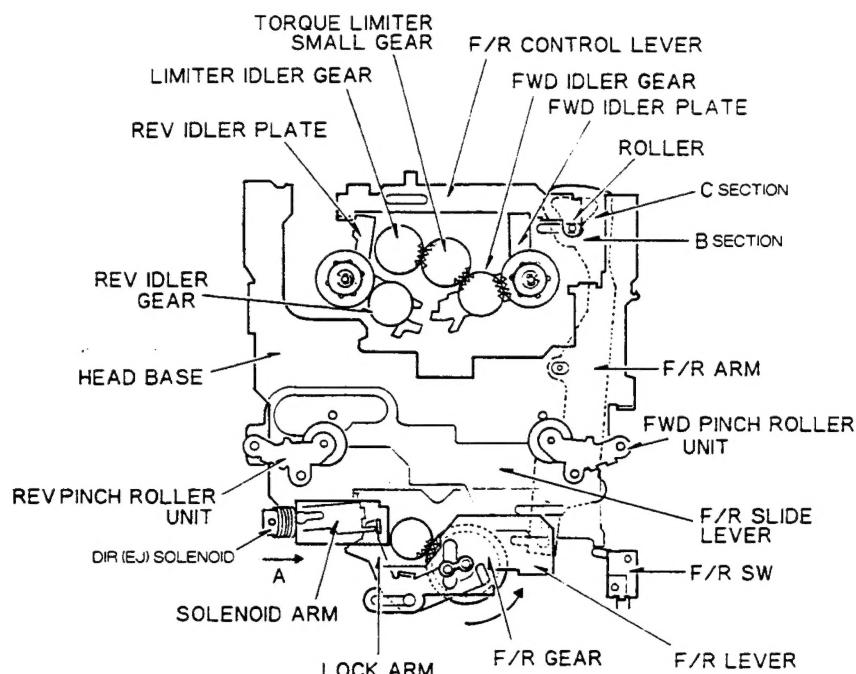

Fig. 19
As the roller is in the C section of the F/R arm when the head is at the release (EJ) position, no change-over is made. In this state, both idler gears of FWD and REV mesh with each other. (Figs. 19 and 20)